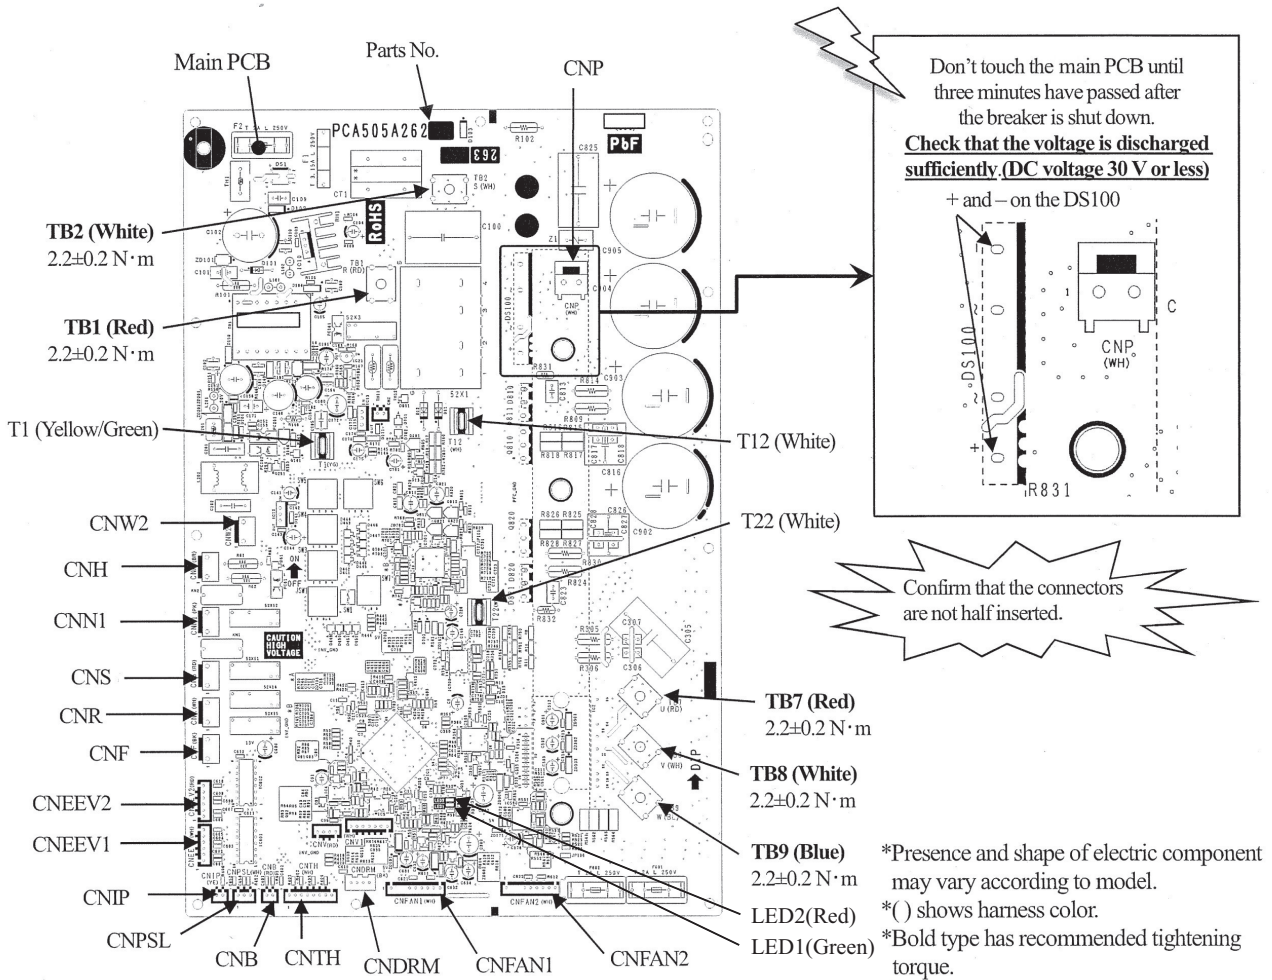

Fig.2 Parts arrangement view of main PCB and voltage measurement points
- c) Disconnect the connectors, faston terminals and round terminals from the main PCB as shown in Fig.2.
- b) Reconnect the connectors, faston terminals and round terminals to the main PCB as before. (Refer to Fig.2)